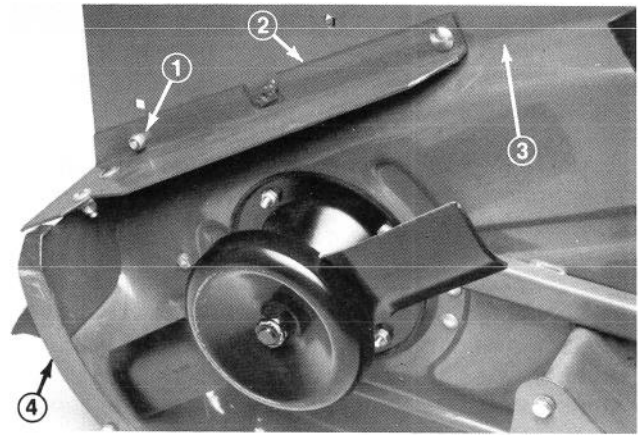

Figure 7
8. Using rear most deflector mounting hole in deck, loosely mount outside end of rear baffle to deck with a 5/16-18x5/8 carriage bolt and lock nut. (Fig. 7).
12. Secure center ring baffle to deck with (4) 1/4-20x3/4 capscrews and nuts.
13. Loosely mount right ring baffle to rear baffle with (2) 5/16-18x5/8 carriage bolts and lock nuts (Fig. 7).
14. Align right ring baffle with end of center baffle and edge of deck. Mark and drill (2) 9/32 in. diameter holes in curved edge of deck (Fig. 7).